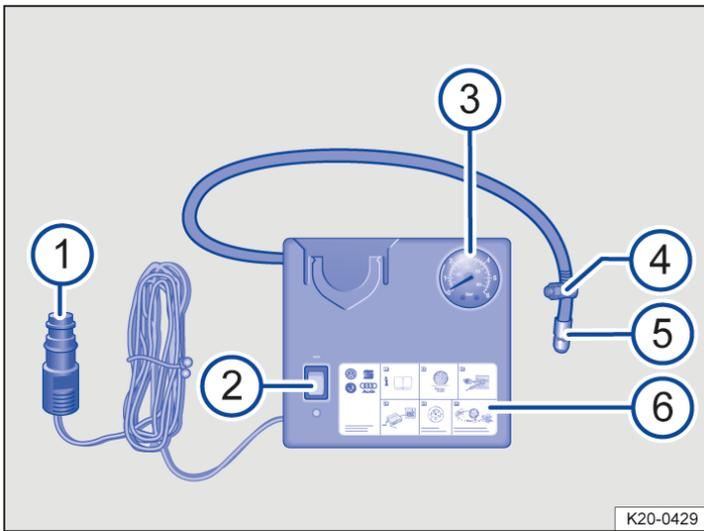

Fig. 2 Illustration: compressor from the breakdown set.
- Screw the tyre filler hose → Fig. 2 ⁵ of the air compressor tightly onto the tyre valve.
- Check that the bleed screw → Fig. 2 ⁴ is closed.
- Insert the 12-volt plug → Fig. 2 ¹ into one of the vehicle's 12-volt sockets (→ Sockets).
- Use the ON/OFF switch → Fig. 2 ² to switch on the air compressor.